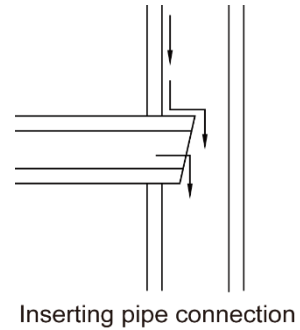

Fig16
- Inserting pipe connection (Fig16)